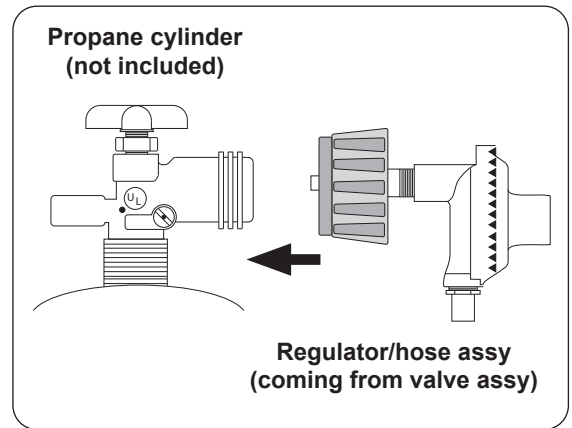

Fig. 21-1 Connecting to an L.P. cylinder
2. Attach the regulator end of the hose assembly to a propane cylinder (not included) and tighten (see Fig. 21-1).